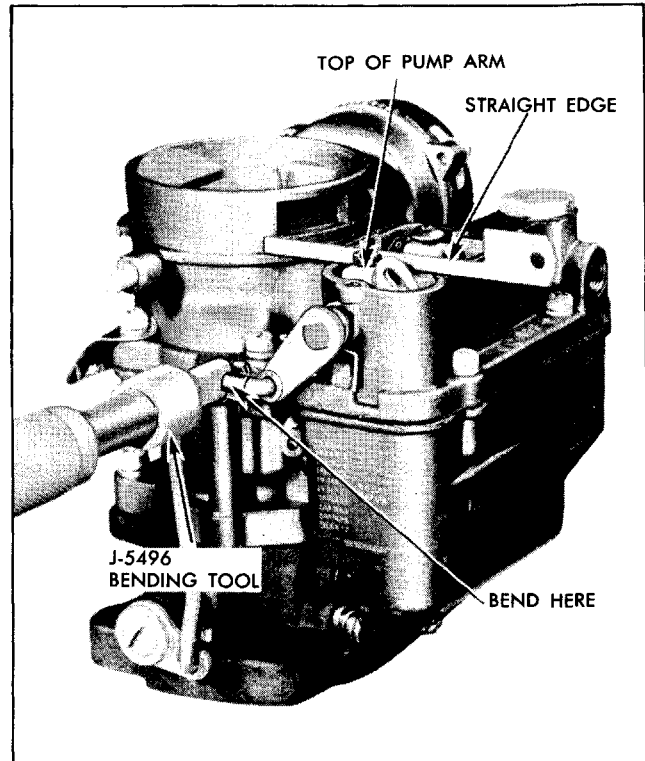

Fig. 6B-34 Accelerator Pump Adjustment—Carter
2. Hold straight edge across top of dust cover boss at pump arm (Fig. 6B-34). Bend rod at upper angle until upper flat of pump arm is parallel with straight edge while throttle valves are seated. (Use Tool J-5496.)